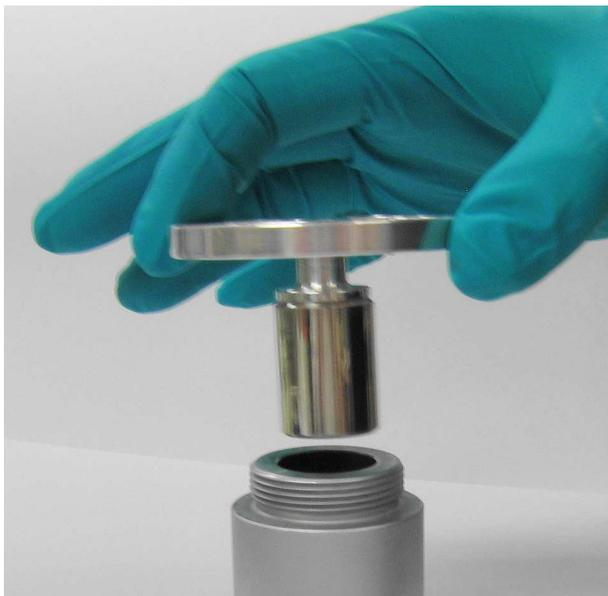

Figure 4. Lowering a piston into the cylinder of a gas-operated deadweight tester.
- To reassemble first ensure the piston and cylinder are correctly oriented. Place the cylinder on the bench. Hold the piston near the top, using the thumb and forefinger, and lower it slowly into the cylinder bore, see Figure 4. Release the piston as it starts to engage in the cylinder bore. It should then slide freely into the cylinder. Never apply force. If the piston sticks then take it apart and try again.